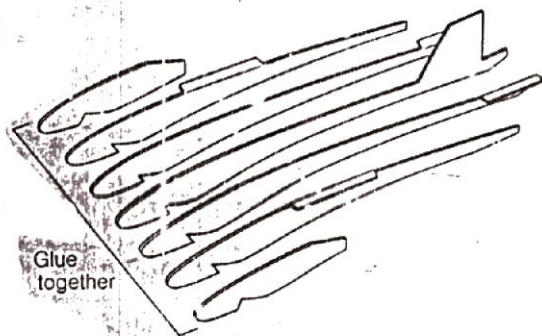

Fig.22 Composition of the fuselage
To meet these requirements the actual construction of the plane body, as shown in Figure 22, is made up of layers of heavy paper. There are more layers in the nose for added strength in Figure 23, the dashed lines show where the glider tends to bend easily. To prevent this parts (A) and (B) extend past the arrow marks for reinforcement.